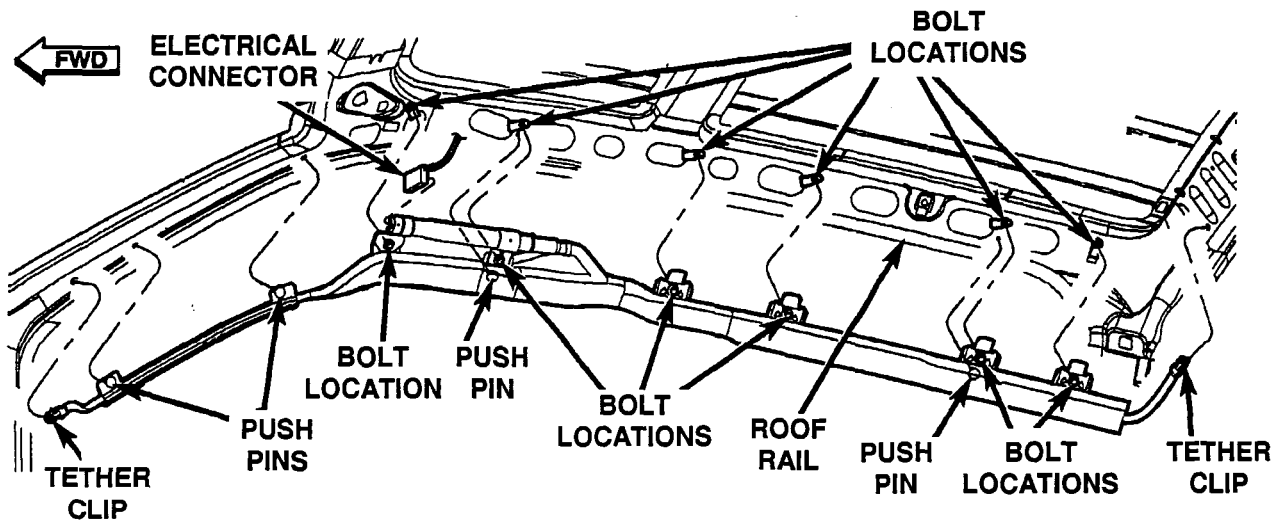

Figure 11
- a. Disconnect the SABIC module wiring harness connector (Figure 11).
- b. Remove the six (6) SABIC module bolts and four (4) push-pin fasteners and remove the damaged module (Figure 11).
- c. Install the new SABIC module. Secure the module with the four (4) push pin fasteners and then loosely install the six (6) module bolts (Figure 11).
- d. Connect the SABIC module wiring harness connector (Figure 11).
45. Ensure that the metal clips and plastic retainers at both ends of the SABIC module tethers are properly installed (Figure 11).
46. Using a 10 mm socket, tighten the six (6) bolts on each SABIC module to 50 in-lbs (5.5 N·m) (Figure 11).